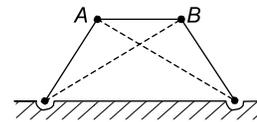

Figure 6.7
The solution is shown in Figure 6.7, where the broken lines represent the addition of two members, which are not joined where they cross.
**Problem 4.** Why is the structure of Figure 6.7 said to be statically indeterminate?